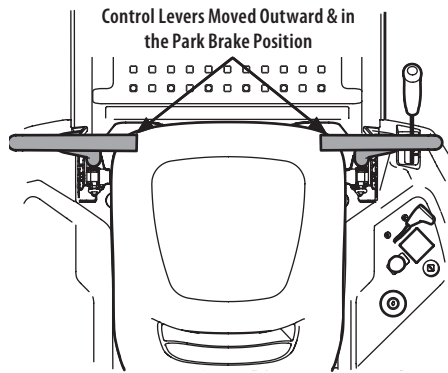

Figure 26
1. Operator should be sitting in the tractor seat with the lapbar drive control levers fully out and in the park position (Figure 26). Refer to Practice Operation (Initial Use) for further instructions.